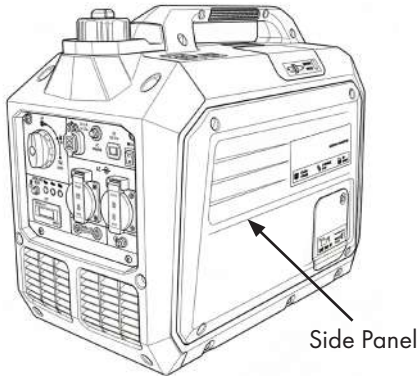

fig. 21
- Loosen the side panel, see fig.21.